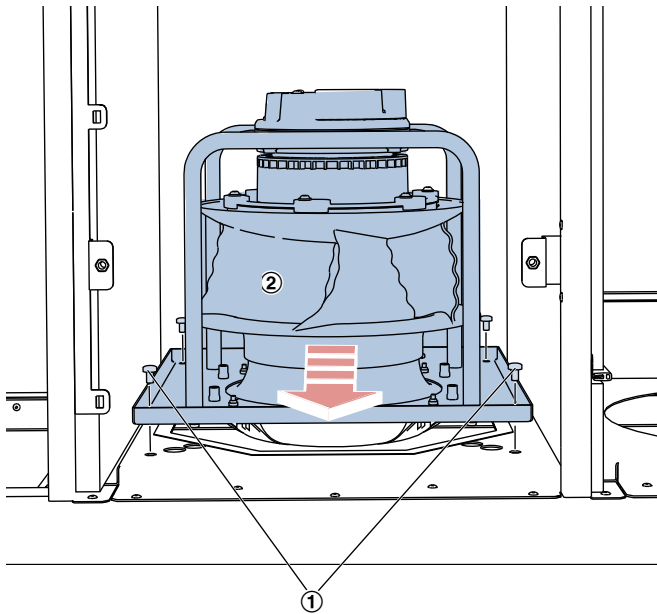

Fig. 14: Supply air fan
8. ▶ Disconnect the connecting cable from the supply air fan at the plug. Loosen the four screws (Fig. 14 /1) and remove the fan (Fig. 14 /2).